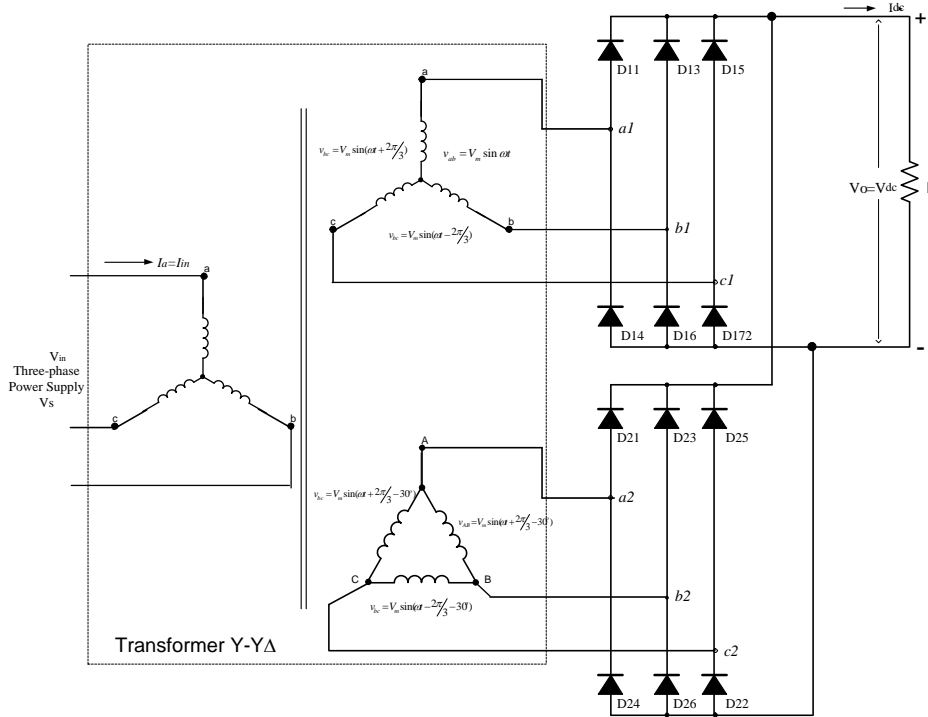

Figure Q1
1. A three-phase full bridge twelve pulse rectifier is shown in Figure Q1. The three-phase source voltage available is 415 V, 50 Hz. The transformer winding ratio are $n_Y : n_Y : n_\Delta = 1 : 1 : \sqrt{3}$. Load is pure resistance R of 100 Ohm.